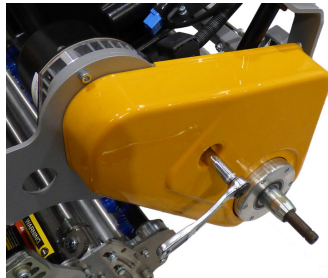

Figure 23
2. Remove chain guard, using a 10mm wrench to remove nut holding guard in position. See Figure 23.